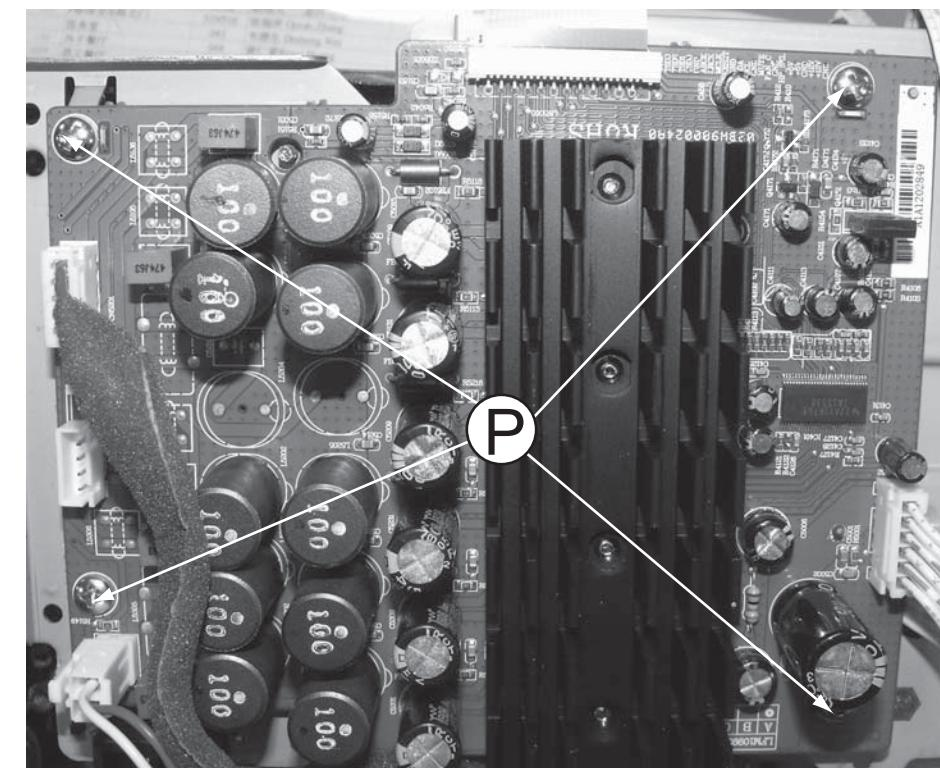

Figure 16
- 1) Loosen 4 screws "P" on the top of AMP Bard as shown in figure 16.